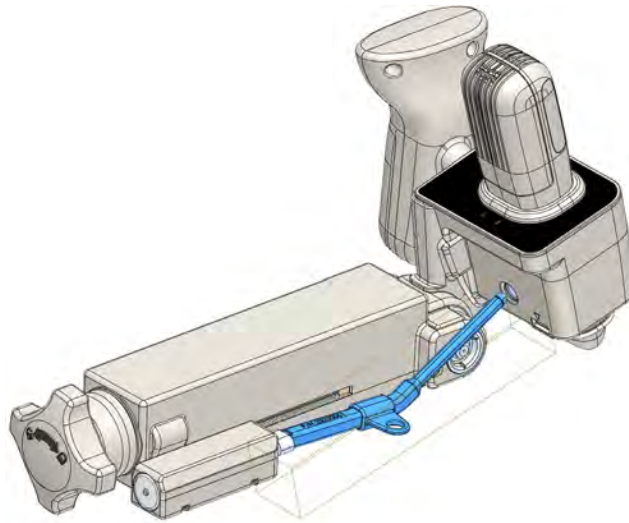

Figure 7. Verification Tool connected to CERTA Access Device.
- Attach the CERTA Verification Tool to the distal end of the CERTA Access Device, shown in blue in Fig. 7.